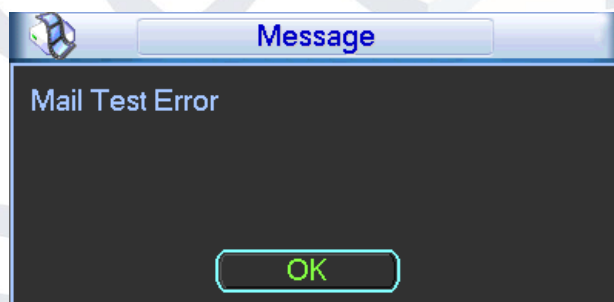

Figure 5-31
- **Interval:** Please check the above box to enable this function and then set the corresponding interval. System can send out the email regularly as you set here. Click the Test button, you can see the corresponding dialogue box to see the email connection is OK or not. See Figure 5-31.